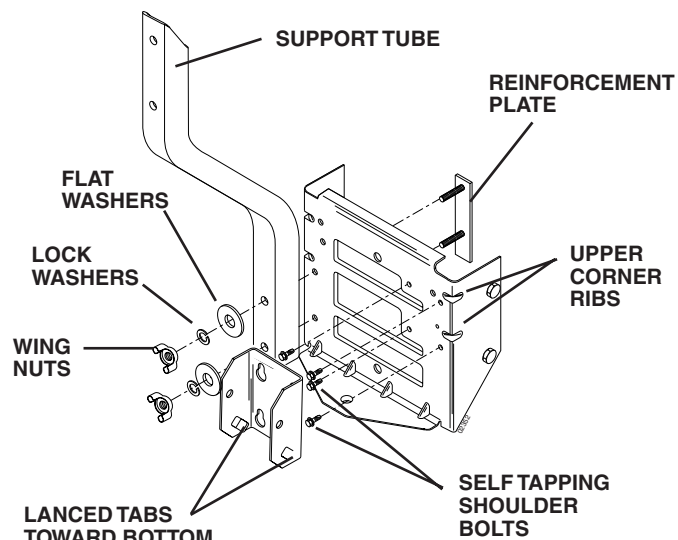

FIG. 1B
If your tractor does not have four (4) shoulder bolts installed on the drawbar, follow the instructions below (See Fig. 1B).